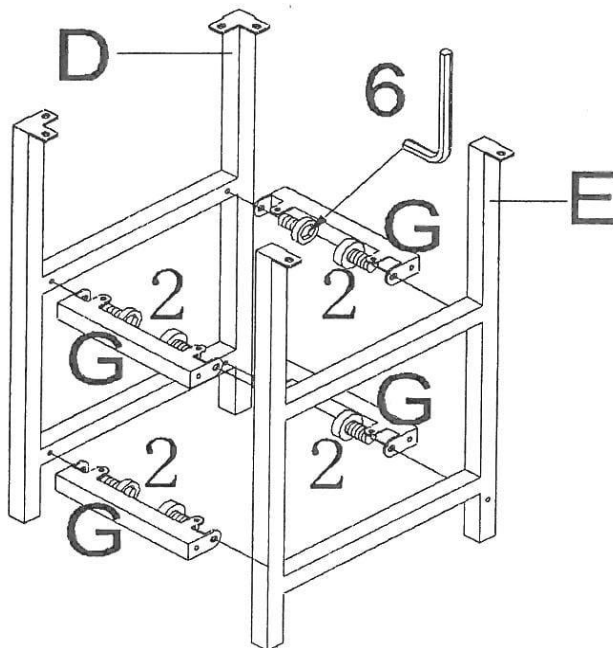

Figure 2
Attach the assembled units from Figure 2 to the Iron Frame (C) with Short Bolts (2)